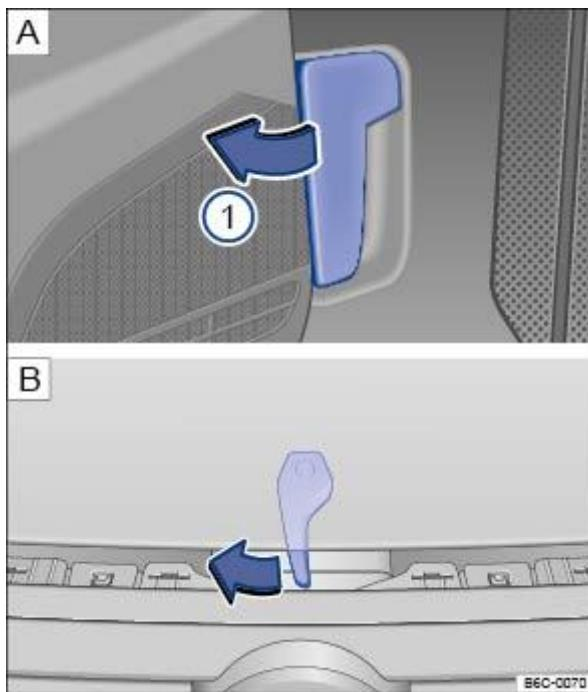

Fig. 182 In the footwell on the driver side: bonnet release lever. Above the radiator grille: bonnet opening lever.
- ¶ Ensure that the windscreen wiper arms are positioned on the windscreen before opening the bonnet ⇒ ① .
- ¶ Open the driver door and pull the release lever in the direction of the arrow ⇒ Fig. 182 . A① . The bonnet is released from the lock carrier catch by spring force ⇒ ▲ .
¶ Lift the bonnet slightly and at the same time press the opening lever in the direction of the arrow ⇒ Fig. 182 . **B** in order to fully open the bonnet.